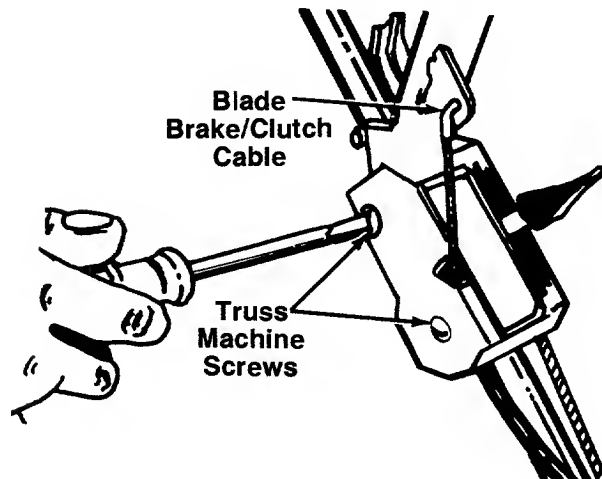

FIGURE 26.
5. Remove two truss machine screws on the inside of the control housing as shown in figure 26.